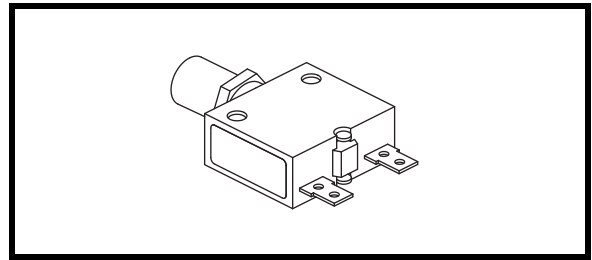
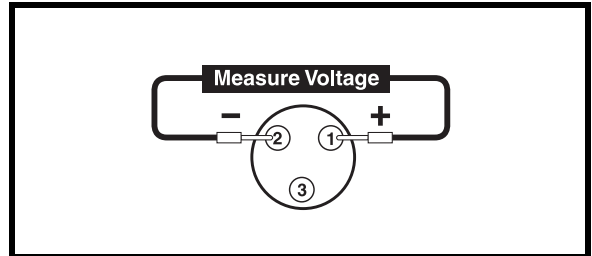

Figure 2. Circuit Breaker (4)
Figure 3. Connector 12a
1. Check the circuit breaker (4). See **figure 2**.
- If the circuit breaker (4) is not tripped, then go to the next step.
- If the circuit breaker (4) is tripped, then reset it and retest the system.
2. Measure voltage across pin 1 and pin 2 of connector 12a. See **figure 3 and diagram 2**.